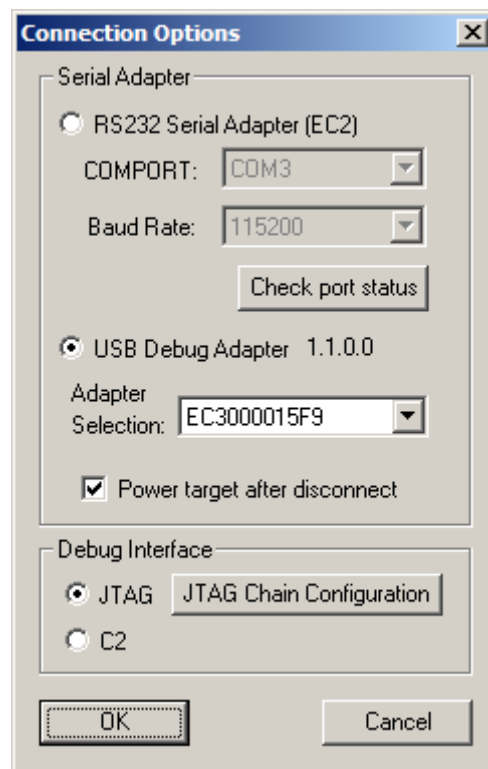

Figure 3. Connection Options
2. Before connecting to the target device, several connection options may need to be set. Open the **Connection Options** window (shown in Figure 3) by selecting **Options**→**Connection Options...** in the IDE menu.